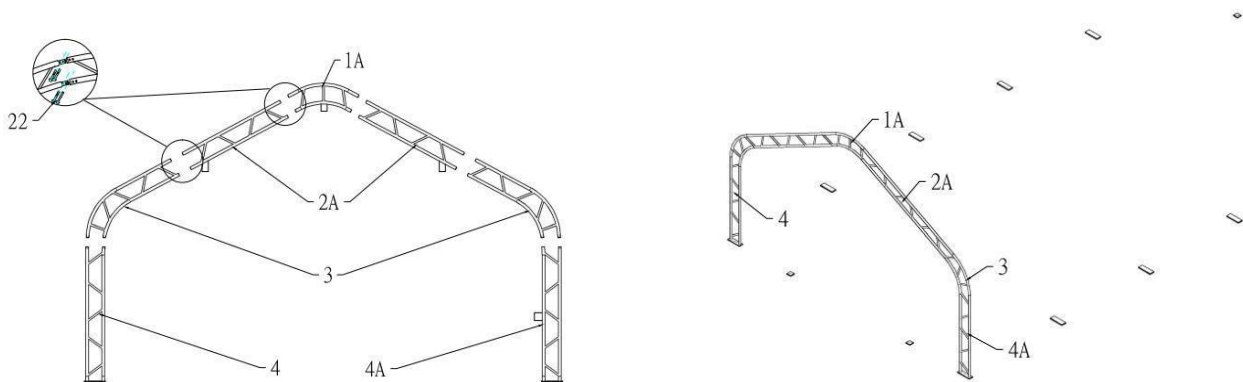
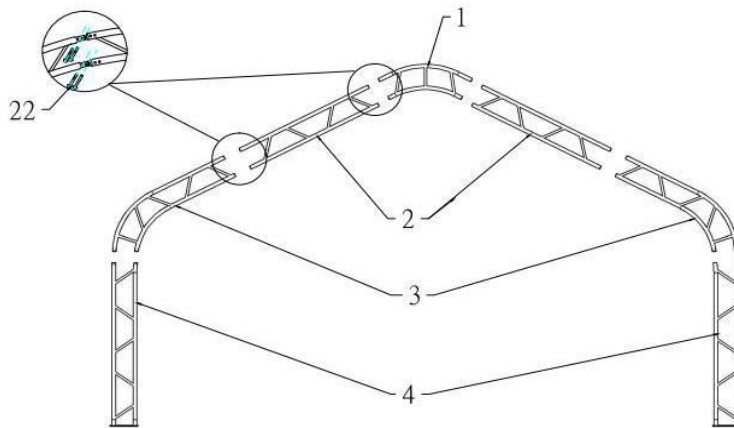
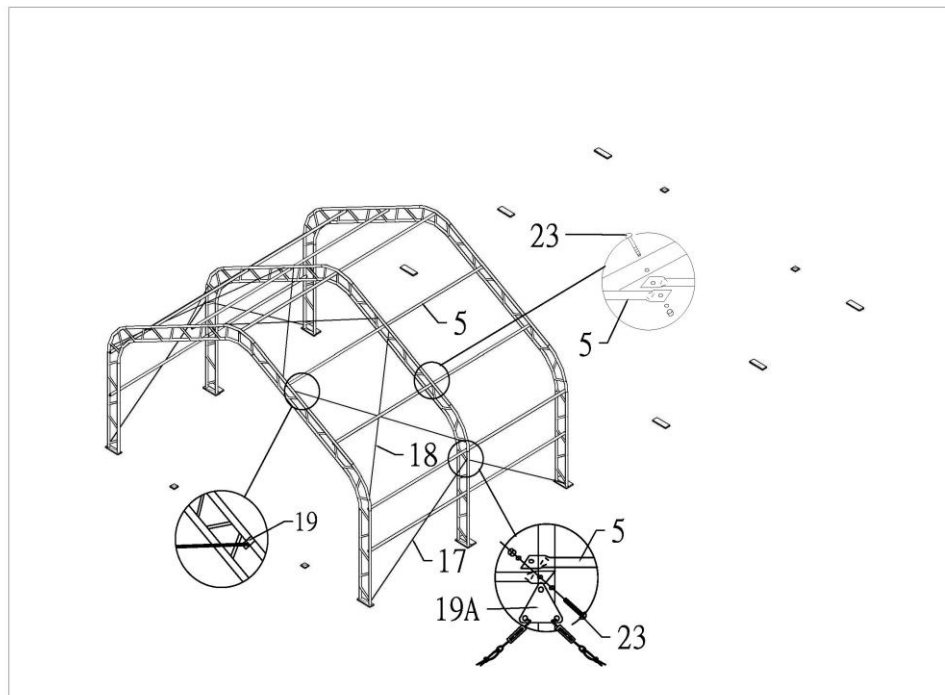

Figure 3
Figure 4
Figure 5
1. Figure 3 shows to connect the Roof bent tube for front and back door (No.1A), Sidewall bent tube for front and back door (No.2A), Shoulder bent tube (No.3), Standing leg (No.4) and Standing leg for front door (No.4A) with Bolt 8x60mm (No.22), then put the arch into tube of the Base flange by hoist (see Figure 4)
2. Figure 4 shows to connect the Roof bent tube(No.1),Sidewall bent tube(No.2),Shoulder bent tube(No.3) , and Standing leg(No.4) with Bolt 8x60(No.22), then put the arch into tube of the Base flange by hoist, and assemble every group arch by turns(see Figure 5)
3. Connect Purlin(No.5) to arch by using Bolt 10x70mm (No.23) by turns(see Figure 5),then
connect the Steel wire(NO.17 and NO.18) on top and side by using Clip(No.19) (see Figure 5).